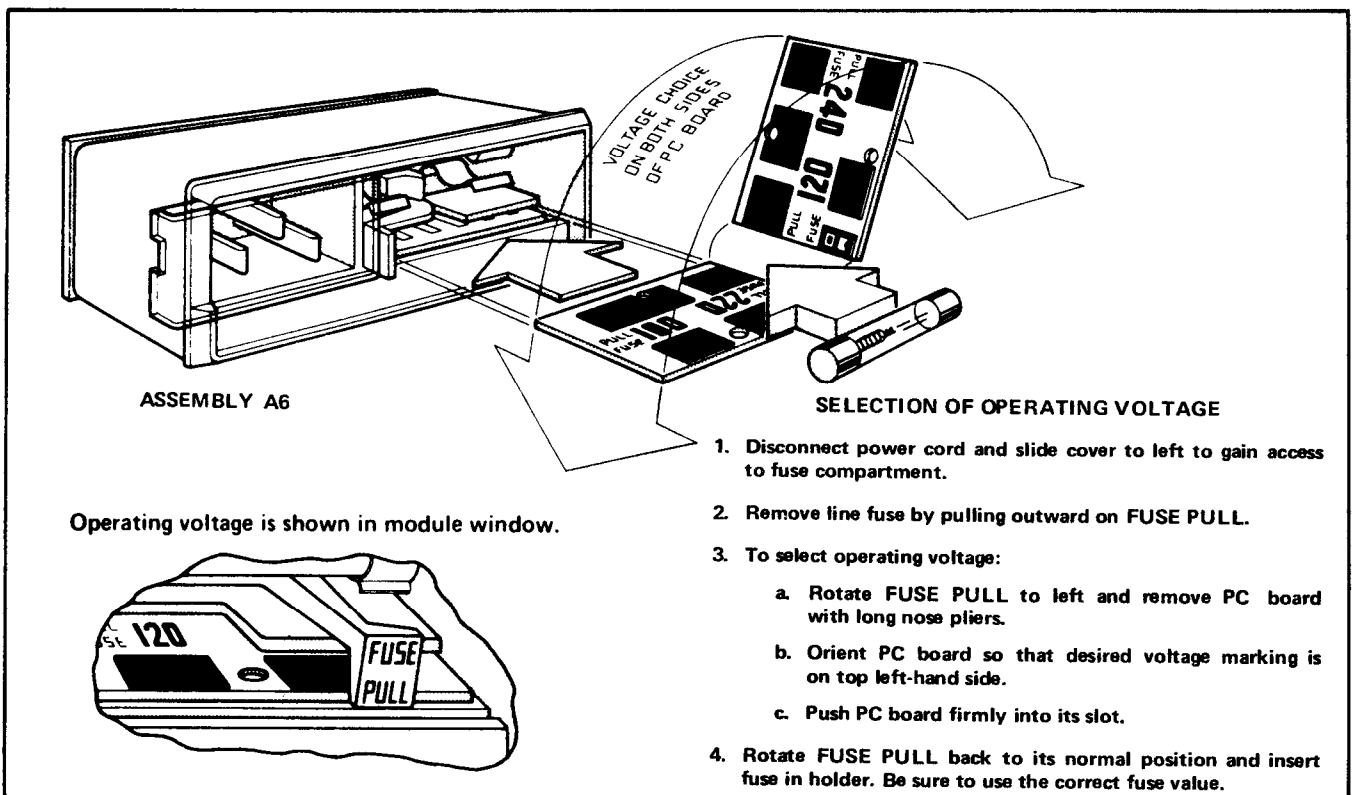

Figure 2-1. Line Voltage Selection
- b. Refer to Figure 2-1. At the instrument's rear panel power line module, select the